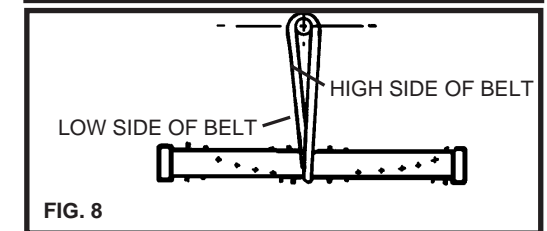

FIG. 8
5. Replace belt on nut making sure the belt is twisted to the right as shown on chassis diagram (fig 8).